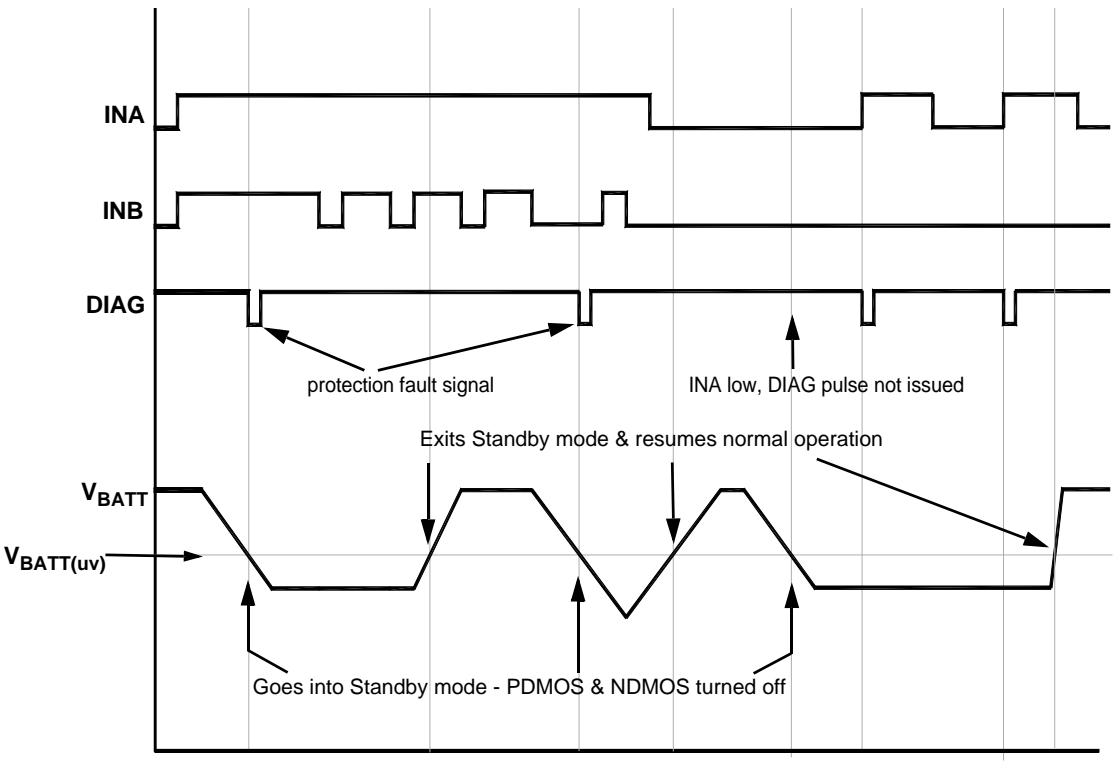

**Figure 4. Over-Voltage**
**Overvoltage** (see figure 4) While in the Excitation mode if the  $V_{BATT}$  pin rises above the over-voltage threshold,  $V_{BATT(ov)}$ , the FDMS2380 is forced into the Recirculation mode and a protection fault signal on the diagnostic pin DIAG is generated. This condition is not reset by INA going low but by the voltage of the  $V_{BATT}$  pin returning below the  $V_{BATT(ov)}$  level. A protection fault pulse will be issued each time the device is driven into the Excitation state while the over-voltage condition exists.